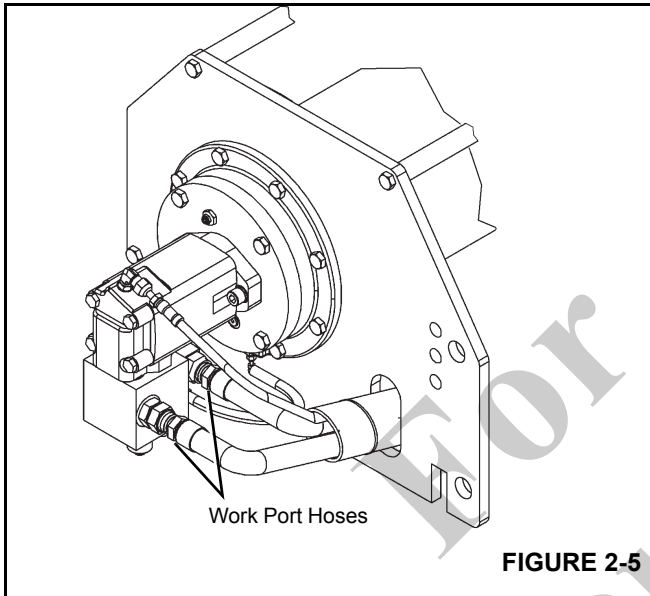

FIGURE 2-5
1. Disconnect the two work port hoses at the hoist motor (Figure 2-5) and cap the hoist motor ports.